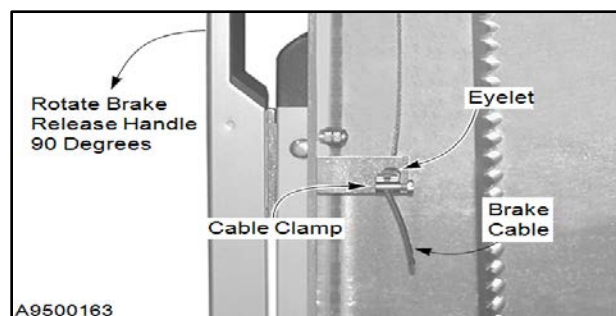

Figure 41
3. Locate the end of the cable passing through the brake release handle. (See Figure 41.)